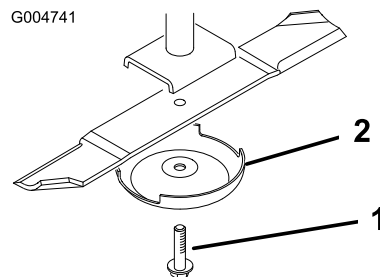

Figure 14
9. Install the blades, anti-scalp cups, and blade bolts (Figure 14).